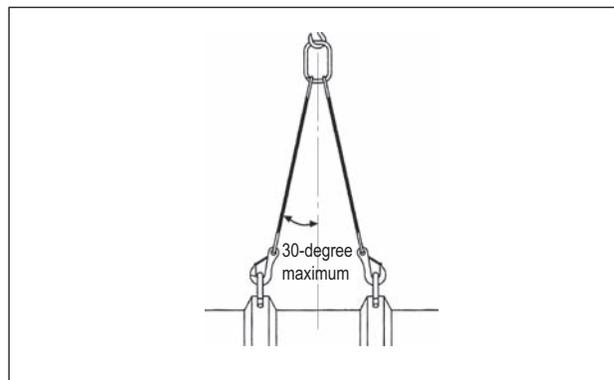
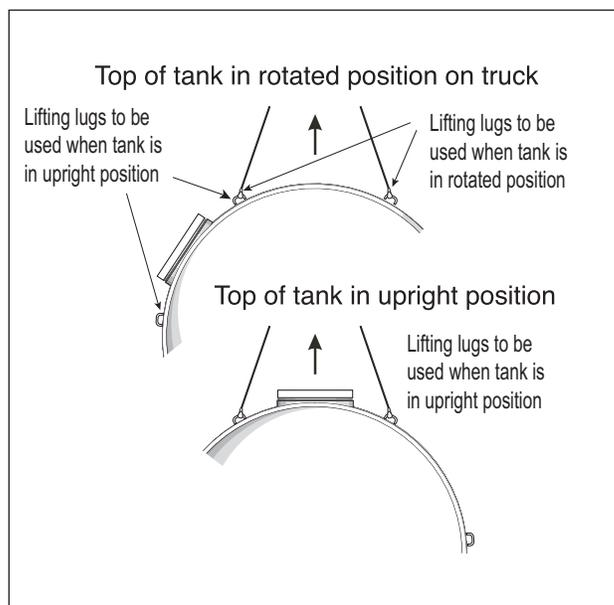

FIGURE 2-1
FIGURE 2-2
2.1.3. When hoisting the tank, follow these instructions: (See *FIGURE 2-1* and *FIGURE 2-2*.)
2.1.3.1. When the tank is not rotated (the tank is upright), use all lifting lug(s) to unload and install the tank. (See *FIGURE 2-2*.)
2.1.3.2. Some tanks are rotated on the truck for shipping purposes. These tanks have extra lifting lug(s) to aid in the loading/unloading process. (See *FIGURE 2-2*.)
2.1.3.2.1. To unload these tanks, use the lifting lugs that are situated on top of the tank in its rotated position. To install the tank, carefully rotate the tank to its upright position and then use all lifting lugs situated on top of the tank in its upright position. (See *FIGURE 2-2*.)